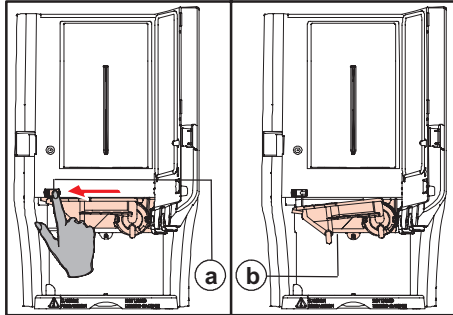

Fig. 38 Releasing trough
8. Remove the trough: release the trough by moving the red slide (fig. 38 a) to the left. The trough (fig. 38 b) comes free at the left.